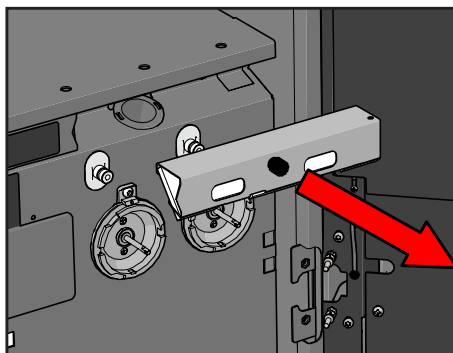

Figure 49.
15. Take the suction cups out of the machine (see Figure 49). Clean the suction box and replace the filter if necessary, see 7.8.